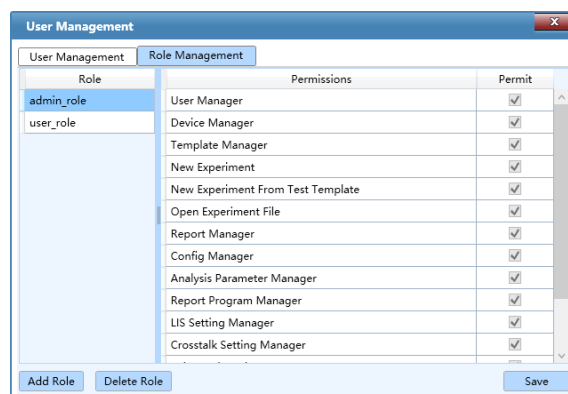

Figure D-3.11a. User Interface - General User Permissions Tab
- **General User Permissions** tab: as shown in figure D-3.11a.